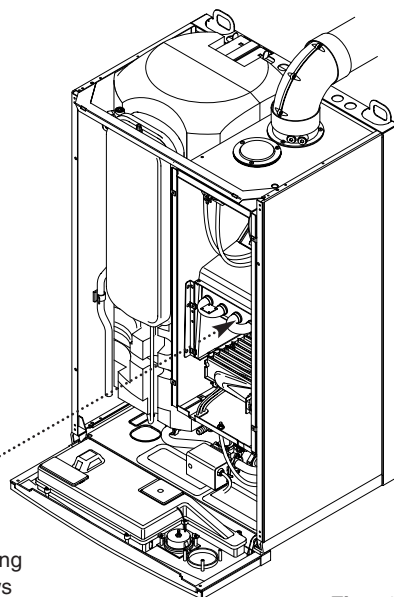

Fig. 58
11.6 Heat Exchanger (Figs. 58 & 59)